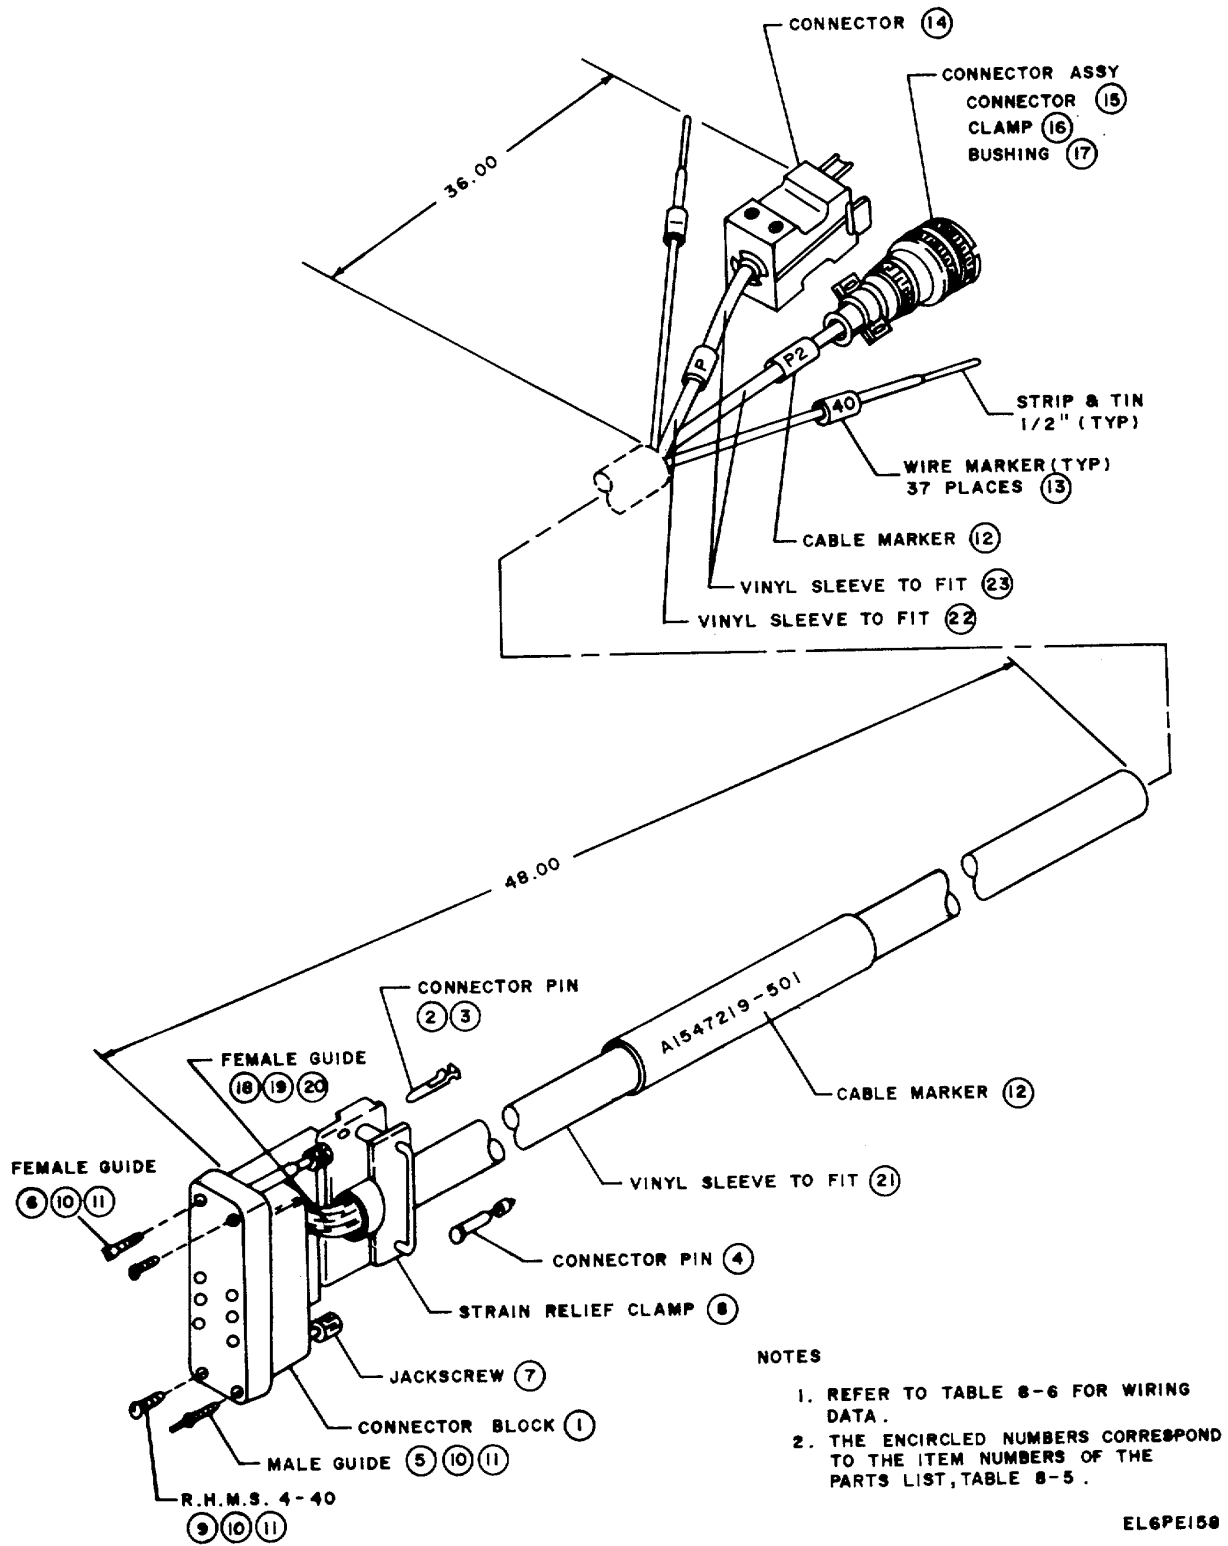

Figure 8-5. Universal Power Cable Assembly.
d. Table 8-5 lists the parts required to fabricate (if necessary) the universal power cable. Table 8-6 is a wiring chart of the universal power cable. Figure 8-5 illustrates the cable assembly.